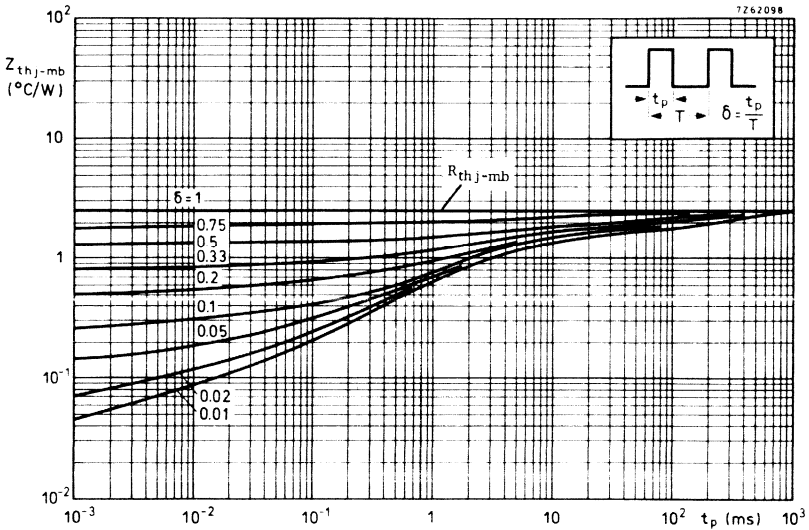

Fig. 5
where $Z_{\text{th j-mb}}$ is the transient thermal impedance from junction to mounting base and is dependent not only on $R_{\text{th j-mb}}$, but also on pulse width (t_p) and period (T). $Z_{\text{th j-mb}}$ is generally published in the form of Fig. 5.